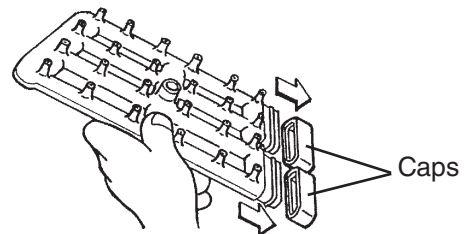

**Fig. 40**
- 6) Lift off the ice chute from the front frame pipe and then from the rear frame pipe. See Fig. 40.